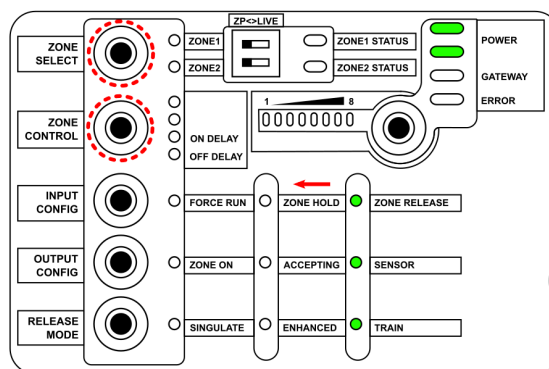

Figure 4: User Interface manual factory reset button sequence
2. Press and hold the ZONE SELECT button and ZONE CONTROL button (shown in Figure 4). The 3x3 matrix of LEDs indicating Input Config, Output Config, and Release Mode will illuminate in banks of 3, starting from the right and moving left.
1. Press and hold the ZONE SELECT button and ZONE CONTROL button (shown in Figure 4). The 3x3 matrix of LEDs indicating Input Config, Output Config, and Release Mode will illuminate in banks of 3, starting from the right and moving left.